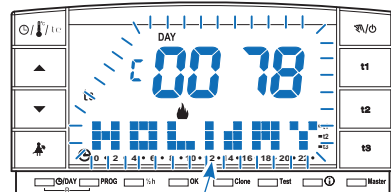

fig. 58
- The screen of the **P 04 HOLIDAY** program will appear on the display for 2 seconds every minute (example in fig. 58) as a reminder that it is in stand-by.